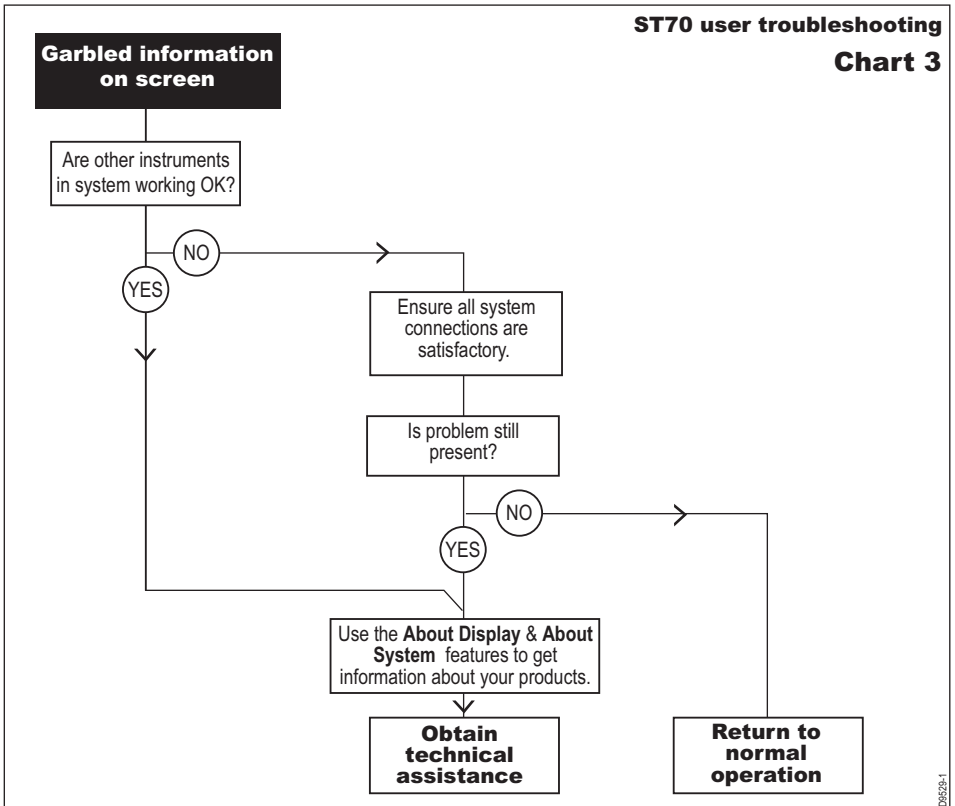

Figure 4-3 ST70 troubleshooting – Chart 3
- Data on the controller screen is garbled – refer to *Figure 4-3, ST70 troubleshooting – Chart 3*.